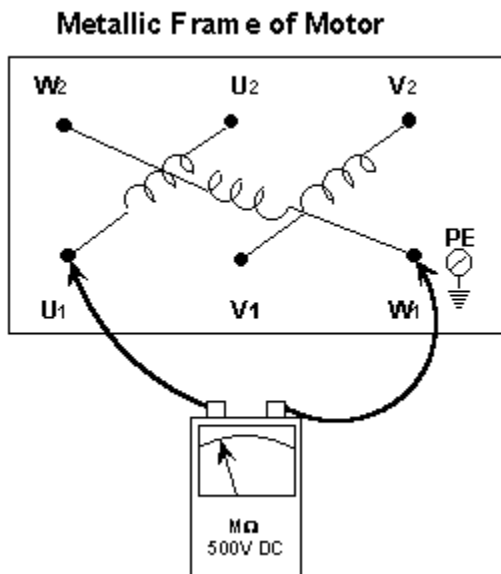

Figure 27
Step 2: Insulation resistance test between windings U and W. See Figure 27.